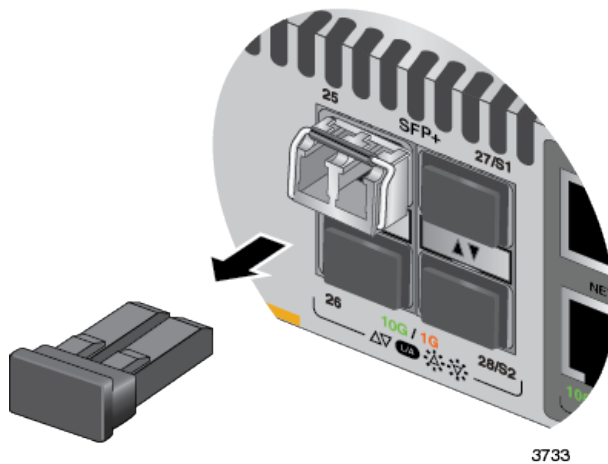

Figure 67. Removing the Dust Cover from an SFP or SFP+ Transceiver
5. Remove the dust cover from the transceiver. Refer to Figure 67.
1. If the SFP+ port has a dust cover, remove it. Refer to Figure 67 on page 178.